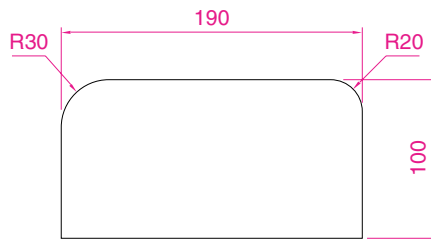

Fig. 6.7 Third example – **Radius** dimension
Third example – Radius dimension (Fig. 6.7)
1. Construct the outline in Fig. 6.7 using the **Line** and **Fillet** tools.
3. Continue dimensioning the outline as shown in Fig. 6.7.